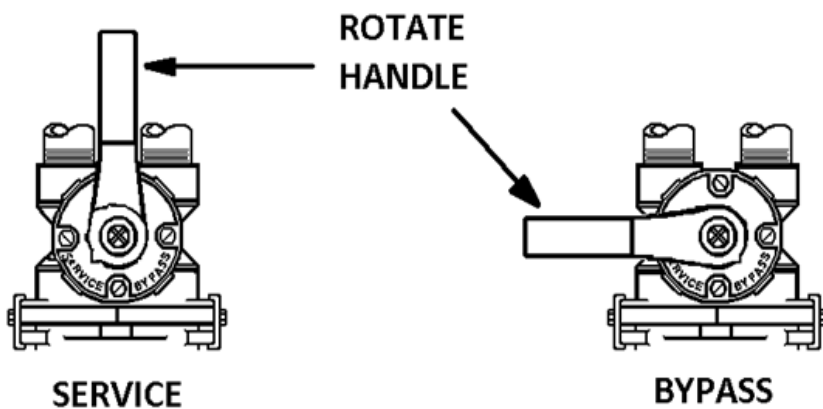

FIGURE 3: Bypass Valve
- The bypass valve should be in the "Bypass" position (See figure 3, page 5). Open main supply valve or turn on power to pump on private well systems. Check for leaks and correct as needed.
- STEP 11:** Open bypass valve $\frac{1}{4}$ of the way allowing unit to pressurize slowly. It is normal for air to be trapped in the top part of the aeration tank. Once tanks are pressurized, fully open bypass valve to the "Service" position (See figure 3, page 5).